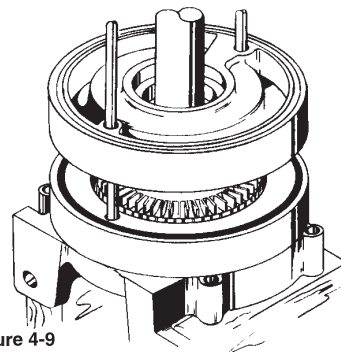

Figure 4-9
10. Slide a right hand channel ring (#9) onto the guide rods with the water channel facing downward, toward the impeller.(refer to figure 4-9) The small outlet opening should be in the "one o'clock" position. This completes one stage; a stage consisting of one left hand channel ring (#10), a right hand channel ring (#9), and an impeller (#11) between them.